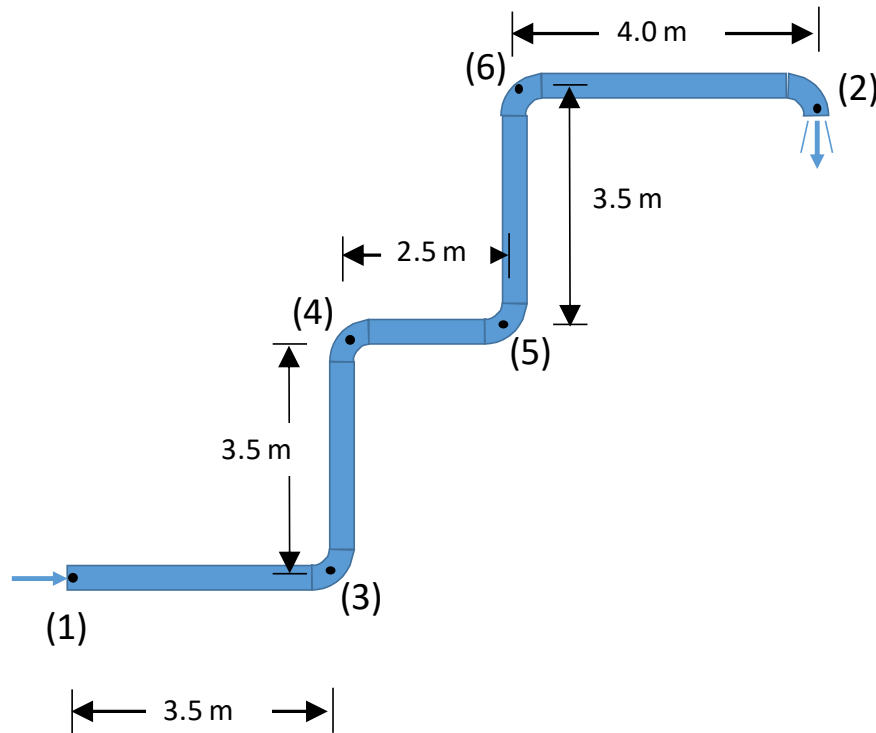

Figure 2. Question 3.
3. Water flows in a pipe according to the Figure 2. The pipe diameter is 2 cm ($\epsilon=1,5 \times 10^{-6}$ m) and the flow rate is $(1.0y \times 0.35 \text{ l/min})$. 'y' is the last digit of your student number (If it is e.g. 5, then $y = 5$, and the multiplier is 1.05. If it is e.g. zero, then $y = 0$, the multiplier is 1.00). The flow exits the pipe as a free jet. The bends (elbows) in the pipe are threaded.
- Explain section-by-section, how the pressure is changing between the points (1) and (2). (2p)
- Define the pressure at the point (1) (3p)